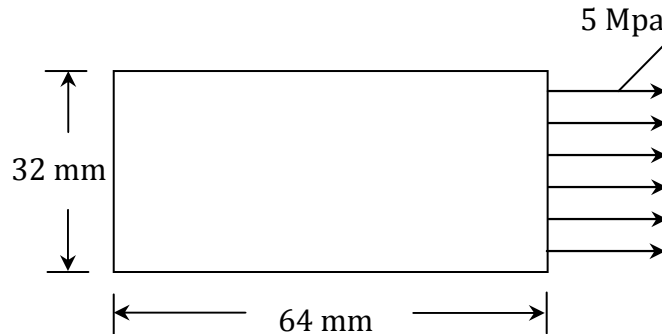

Fig. 3
3. Find the deformed configuration, and the maximum stress and minimum stress locations for the rectangular plate loaded as shown in the Fig. 3. Solve the problem using 2 triangular elements. Assume thickness = 10cm; $E = 70 \text{ GPa}$, and $\nu = 0.33$.